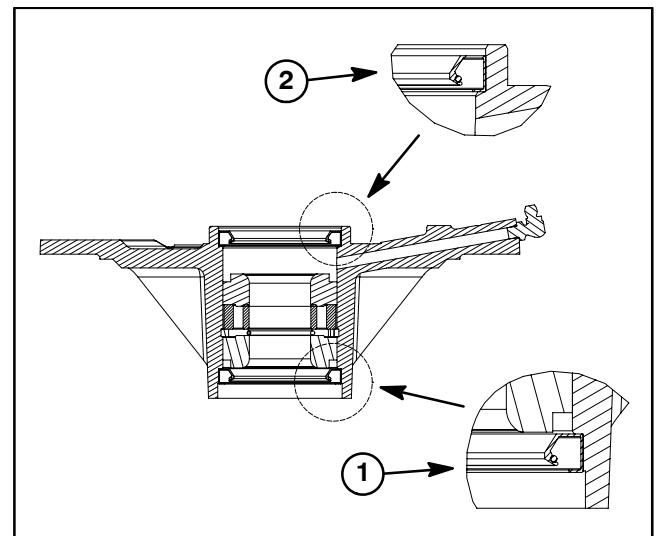

Figure 13
5. Install lower bearing cone and oil seal into bottom of spindle housing. **Note:** The bottom seal must have the lip facing out (down) (Fig. 13). This seal installation allows grease to purge from the spindle during the lubrication process.
6. Slide spacer ring and inner bearing spacer into spindle housing, then install upper bearing cone and oil seal into top of housing. **Note:** The upper seal must have the lip facing in (down) (Fig. 13). Make sure upper seal is flush to 0.080" (2.0 mm) recessed to housing surface.